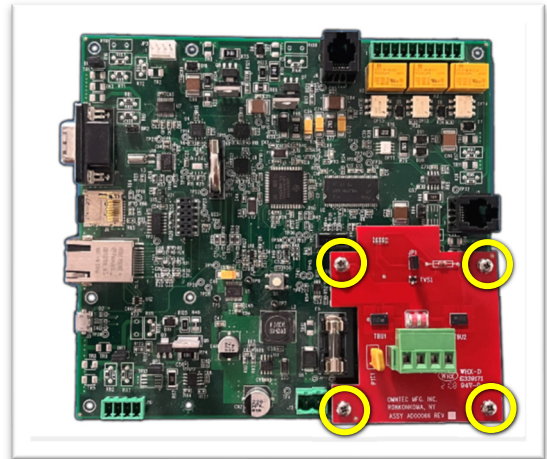

Figure 1.6
(See Figure 1.6; yellow)
***Note: If you have the old DB-485 option board (Figure 1.6), it will neither fit nor function with the Gen IV MCU board.***